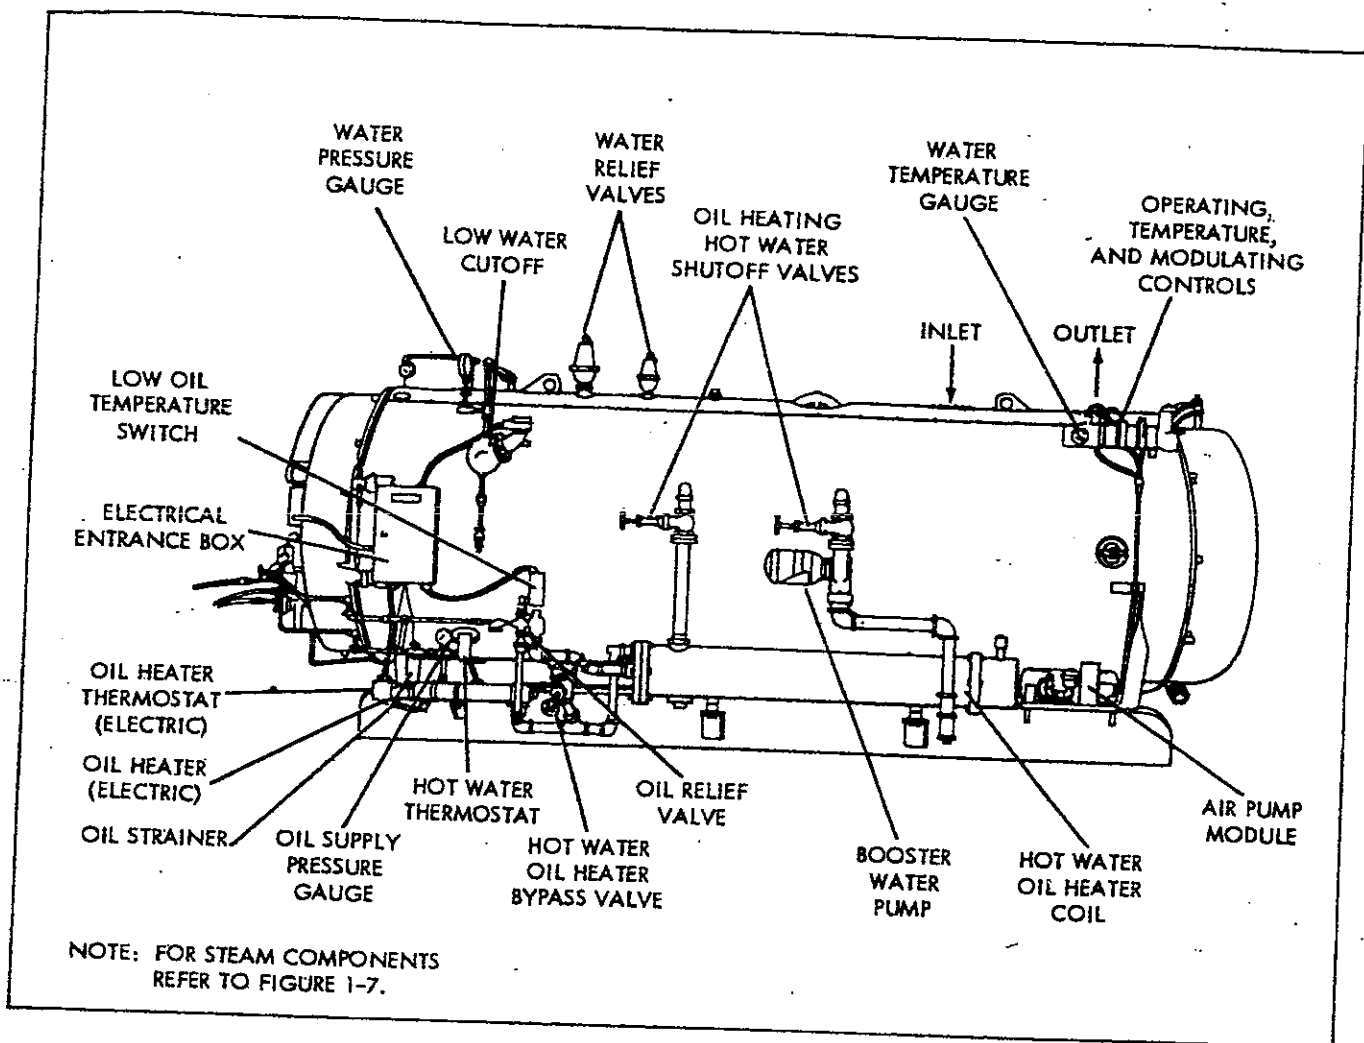

FIGURE 1-2. TYPICAL HOT WATER BOILER
(1) Water Temperature Gauge (figure 1-2): Indicates the boiler's internal water temperature.
(2) Water Pressure Gauge (figure 1-2): Indicates the boiler's internal water pressure.
(3) Operating Limit Temperature Control (figure 1-2): Breaks a circuit to stop burner operation on a rise of boiler temperature above a selected setting. It is adjusted to stop or start the burner at a preselected operating temperature.
(4) High Limit Temperature Control (figure 1-2): Breaks a circuit to stop burner operation on a rise of temperature above a selected setting. It is adjusted to stop burner at a preselected temperature above the operating temperature control setting. The high limit temperature control normally is equipped with a manual reset.
(5) Modulating Temperature Control (figure 1-2): Senses changing boiler temperature and transmits this information to the modulating motor to change the burner's firing rate when the manual-automatic switch is set on automatic.
(6) Low Water Cutoff (figure 1-2): Breaks the circuit to stop burner operation if water level in
(7) Auxiliary Low Water Cutoff (optional), (not shown): Breaks the circuit to stop burner operation if the water level in boiler drops below the master low water cutoff point.
(8) Relief Valve(s) (figure 1-2): Relief Valve(s) relieve the boiler of pressure higher than the design pressure or a lower pressure, if designated. Relief valves and their discharge piping are to be installed to conform to ASME code requirements.